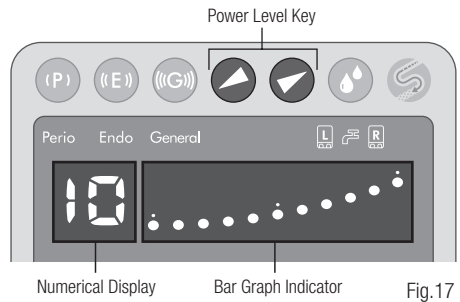

Fig.17
- 2) Set the power level with the Power Level Key on the Front Panel. The Bar Graph Indicator and Numerical Display will indicate the selected power level. (Fig. 17) Make sure the power level is set in the appropriate range for the attached Tip.